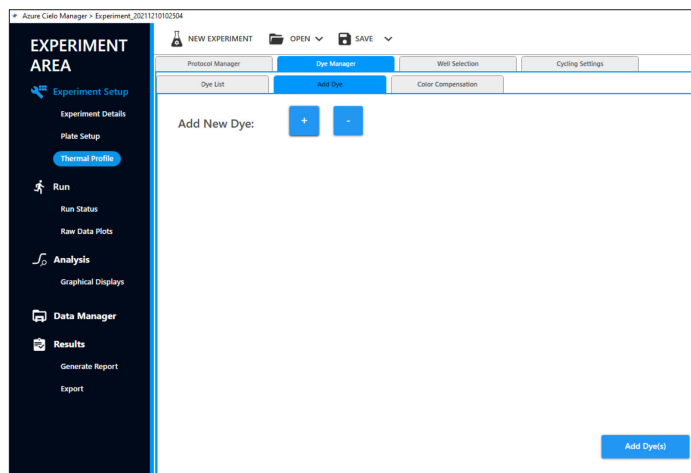
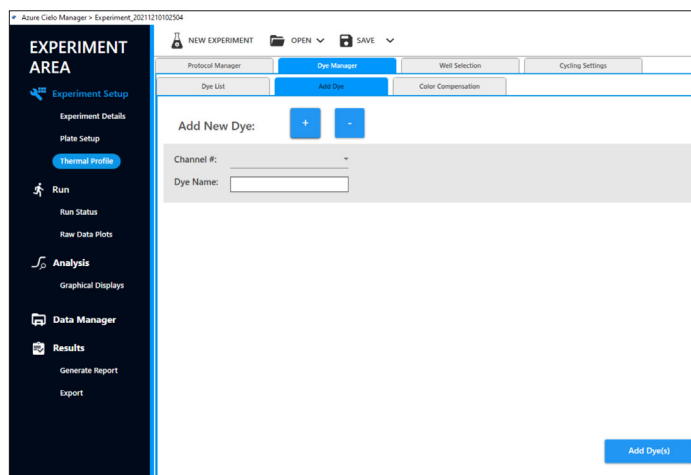

Figure 1.
Figure 2.
1. Navigate to the Thermal Profile area of the Experiment Setup group. Click on the Dye Manager tab, then click on the Add Dye tab. Click the + button to the right of the Add New Dye text (Figure 1). Fields for Channel # and Dye Name will appear (Figure 2).